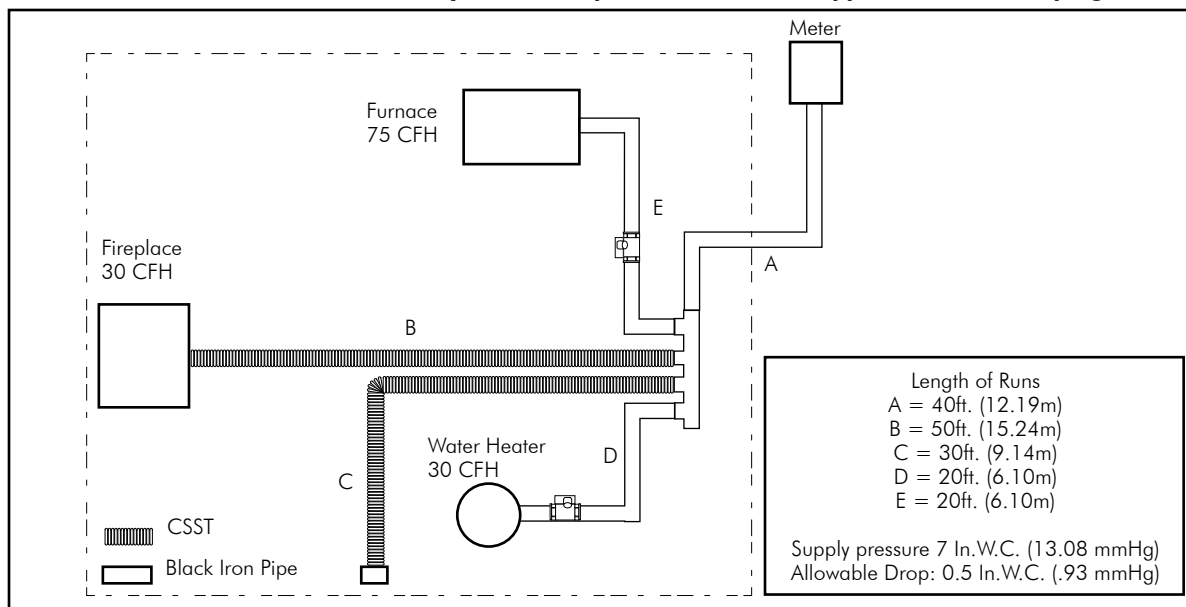

Fig. 3-6 Black Iron Pipe and CSST Systems
1. When adding Diamondback® to an existing black iron pipe system use the longest length method explained earlier in this chapter. In FIG. 3-6 the home has an existing supply line of one-inch black iron pipe. The supply pressure is 7 in.W.C. (13.08mmHg) with an allowable drop of 0.5 in.W.C. (.93mmHg).
2. To size Section A, determine the total load of the home (170 CFH) and the longest run, 90 ft. (27.43m). Table N-8 (Page 54) shows that 1" (25) dia. pipe has a capacity of 205 CFH at 90 ft. (27.43m) The 1" (25) dia. pipe (Section A) will handle the load.
3. To size Section B, determine the load of the fireplace (30 CFH) and the length of the run, 90 ft. (27.43m) Table N-1 (Page 48) shows the suitable size Diamondback® is $\frac{1}{2}$ " (13).
4. To size Section C, determine the load of the quick connect (25 CFH) and the length of the run., 70 ft. (21.34m) Table N-1 shows the suitable size Diamondback® is $\frac{1}{2}$ " (13).